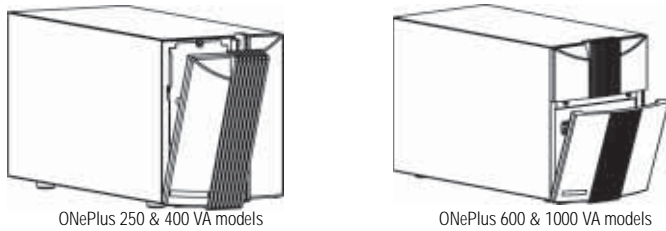

fig. 11: Removing the Front Panel
4. Remove plastic bezel from the front of the UPS. For the 250 and 400 VA models, pull the top left corner forward and slide the front panel off. For the 600 and 1000 VA models pull the center left and right sides and slide the front panel off (see fig. 11).